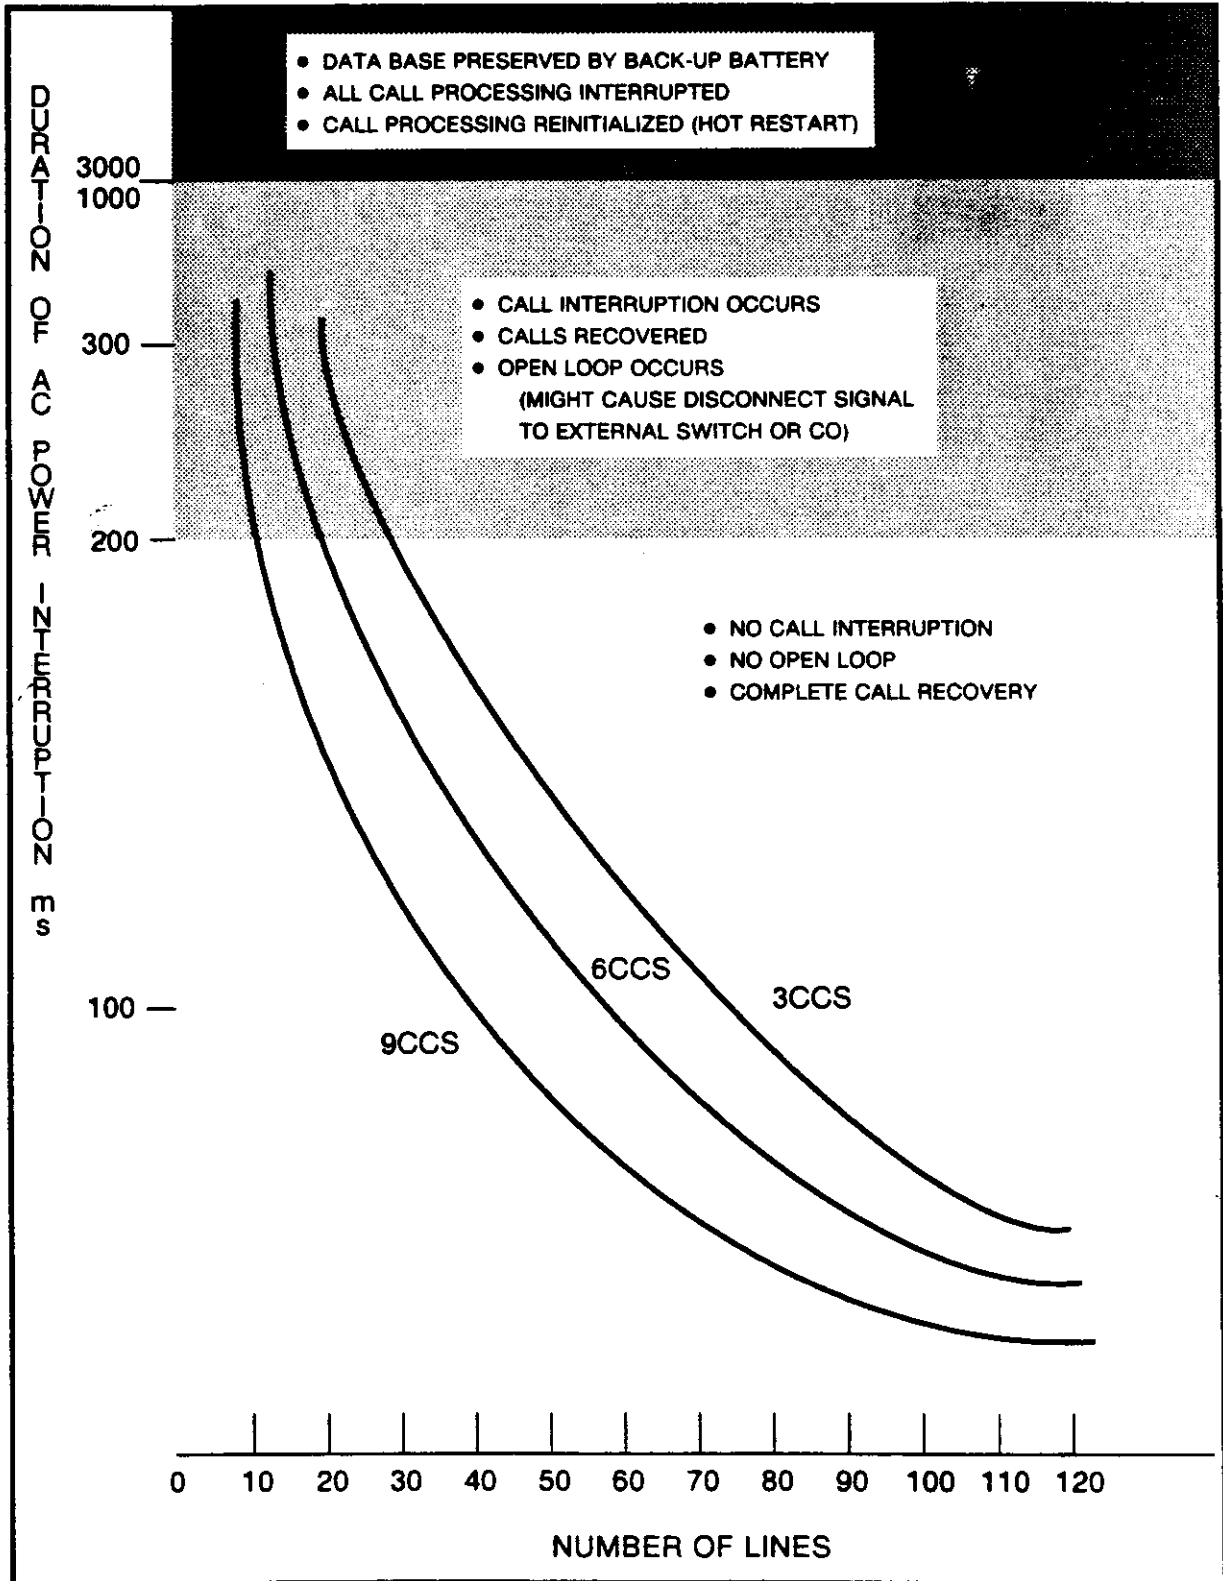

Figure 7.2 Power Supply Protection Range for AC Power Interruption Duration of Interrupt (ms) by Number of Lines per Hundred Call Seconds (CCS)
7.1.2 The system has a limited capability to maintain memory and call status during power interruption. Figure 7.2 shows the relationship of line use to length of storage time in milliseconds of interrupt. A memory back-up battery is continuously charged by the system to preserve the ODDB (Office Dependent Data Base) during a power failure. A fully charged battery will preserve the ODDB in RAM for approximately two weeks. Battery discharge status is indicated by the CPM card ALM lamp and other alarm devices. (Alarm button on an EKT, Attendant Console or DSS/BLF Console or a remote alarm unit.)